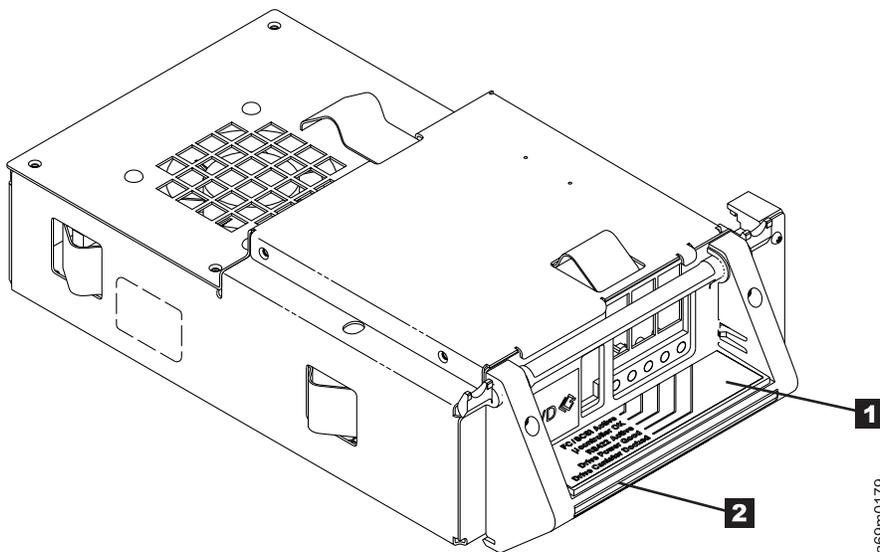

Figure 105. Control Port – SCSI
4. Refer to Figure 105. Use your fingers to push up on the locking lever **1** from the underside of the control port canister until it unlatches.